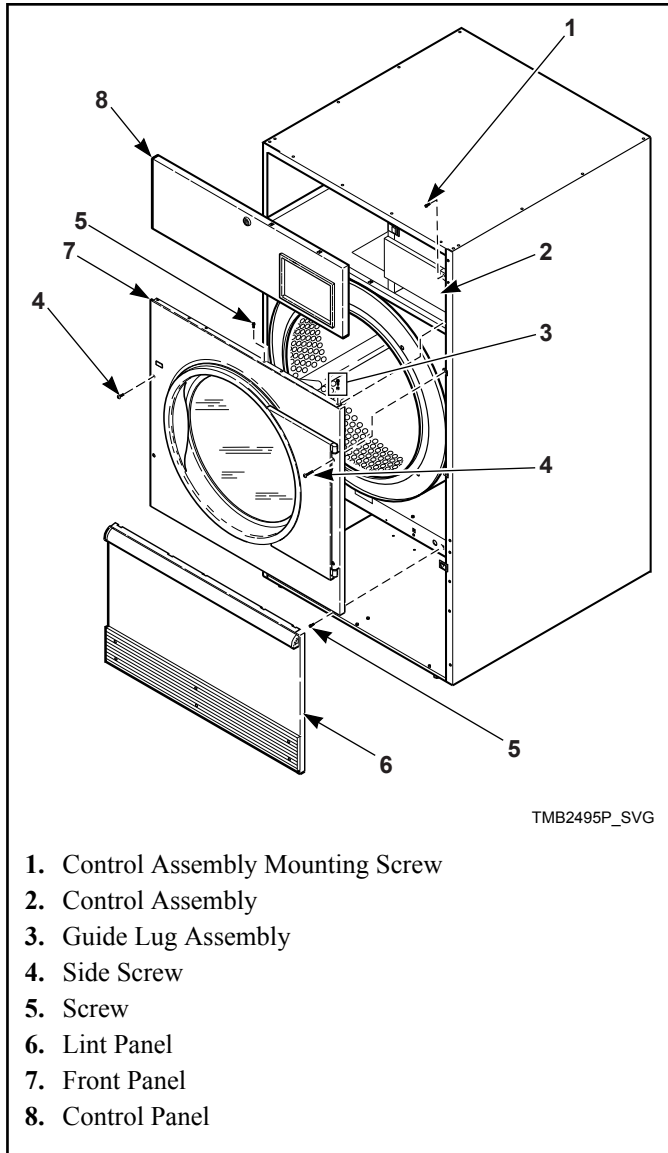
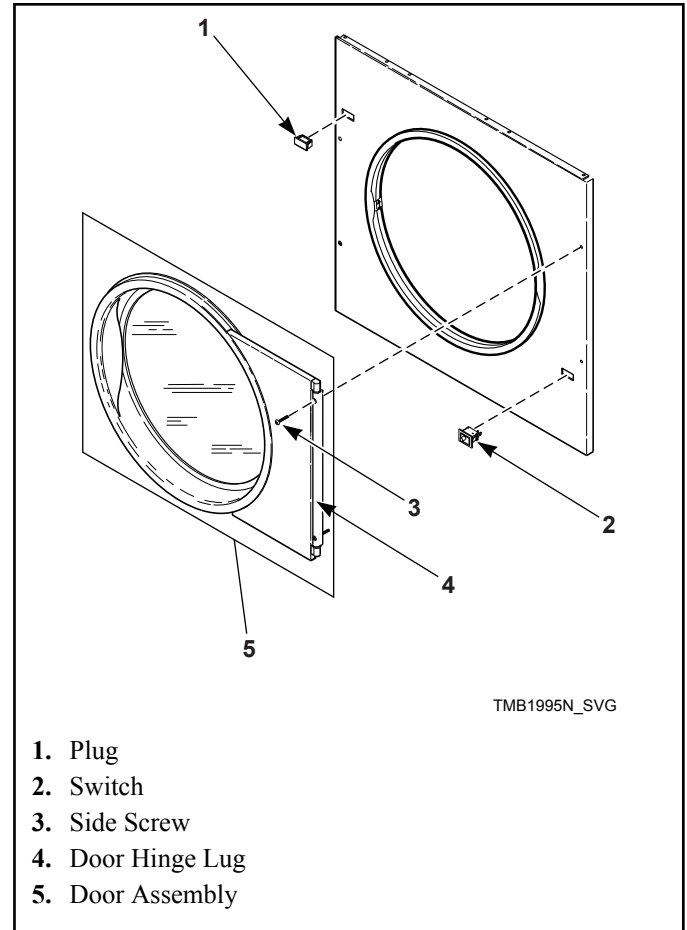

Figure 10
Figure 11
to access upper flange right guide lug assembly. Refer to *Figure 10*.
4. Remove four front panel screws. Refer to *Figure 10*. Keep door hinge cams in place on door hinge lug. Pull lug and door assembly off as one piece. Refer to *Figure 11*.
5. Remove remaining front panel screws. Refer to *Figure 10*. Disconnect door switch harness from switch. Take off front panel. Refer to *Figure 11*.
6. Exchange switch and plug locations. Depress tabs with an adjustable pliers to remove plug and switch from front panel. Reinstall switch, orienting button toward center of machine. Reinstall plug in switch's previous location. Refer to *Figure 11*.